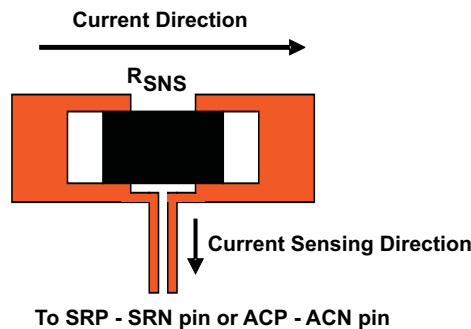

Figure 25. Sensing Resistor PCB Layout
4. The charging-current sensing resistor should be placed right next to the inductor output. Route the sense leads connected across the sensing resistor back to the IC in the same layer, close to each other (minimize loop area), and do not route the sense leads through a high-current path (see Figure 25 for Kelvin connection for best current accuracy). Place a decoupling capacitor on these traces next to the IC.